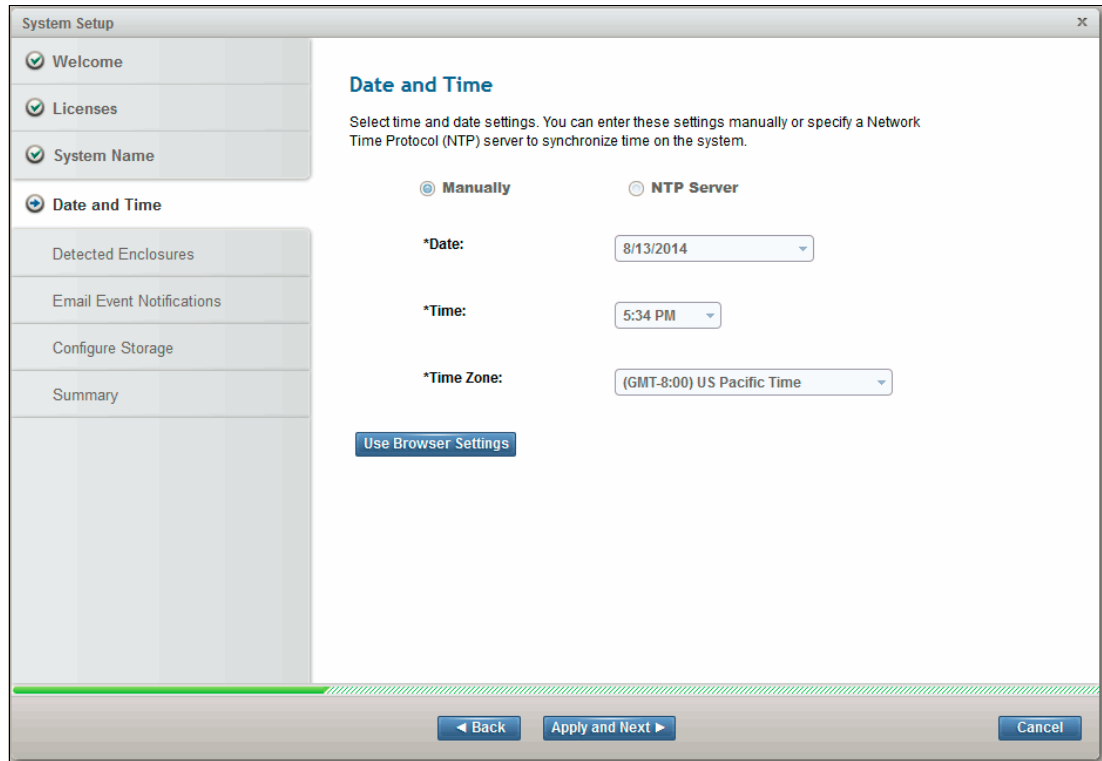

Figure 5-16 Setting Date and Time
9. The window shown in Figure 5-16 enables you to set the date and time. You can either use manual settings, or use a Network Time Protocol (NTP) server. Using an NTP server in the environment for all devices is highly suggested, for example, to ensure that you have a common time stamp for troubleshooting, and so on.